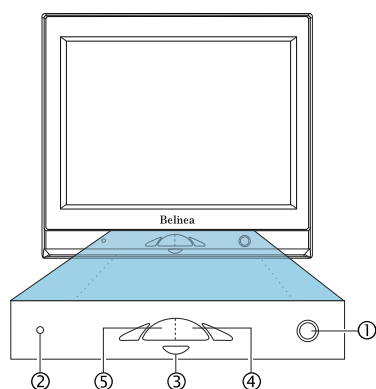

Figure 3. Monitor Controls and Indicators
3. First, turn on your PC, and then turn on your Belinea monitor with the power button (see ① in Figure 3). The status indicator (see ② in Figure 3) should light up green.
Turn on the monitor using the power button (① in figure 3). Afterwards, the status indicator (② in figure 3) lights up green (it turns orange if the monitor is turned off or a power savings mode is activated).
You can adjust the contrast and brightness directly by turning the OSD dial (③ in figure 3) while the OSD menu is not active. Turning the dial to the left displays the OSD contrast menu while turning it to the right displays the OSD brightness menu. Then turn the dial left to increase, or right to decrease the contrast/brightness.
1. Press the OSD menu button (④ in figure 3) to display the OSD menu on the screen.
2. Select the desired function icon using the OSD dial (③ in figure 3, see the following section "OSD Menu Functions").
3. Press the OSD enter button (⑤ in figure 3) to activate the function.